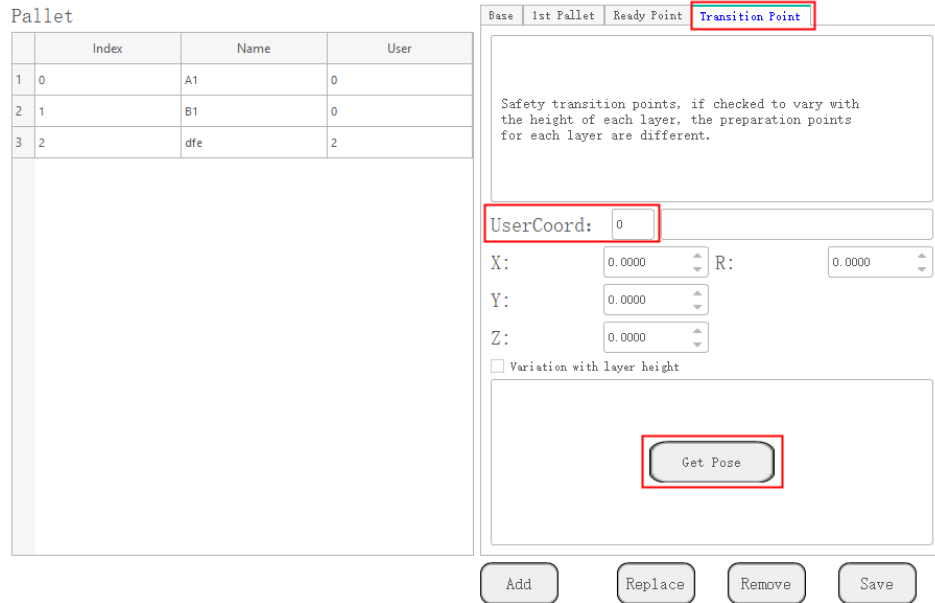

Figure 5.28 Teach the transition point
**Step 4** Jog the robot to the transition point and click **Get Pose** on the **Transition Point** tab, as shown in Figure 5.28.